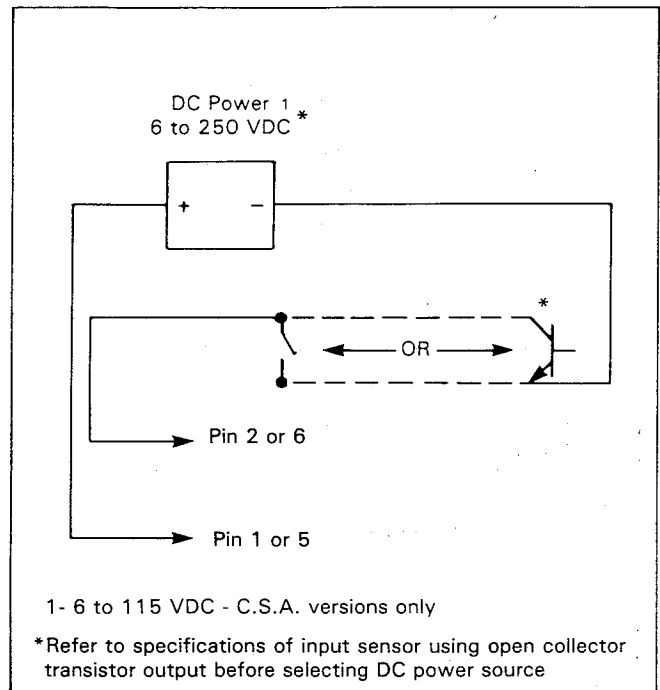
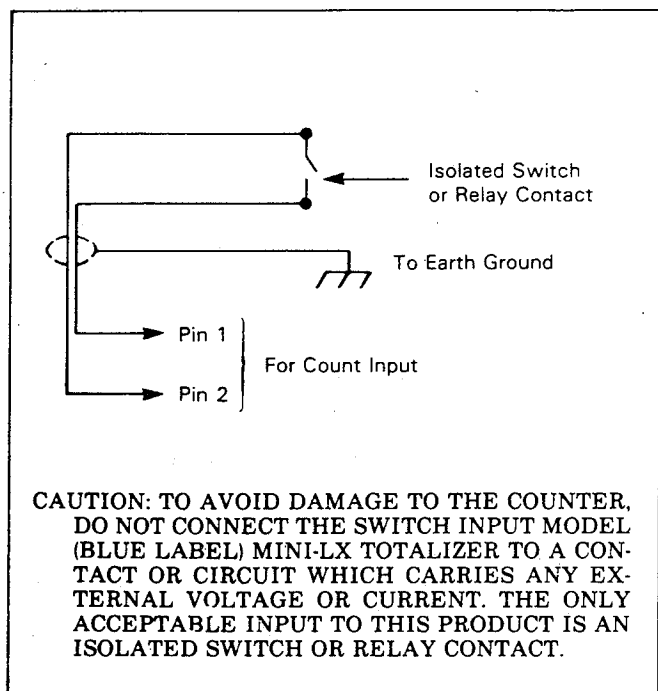
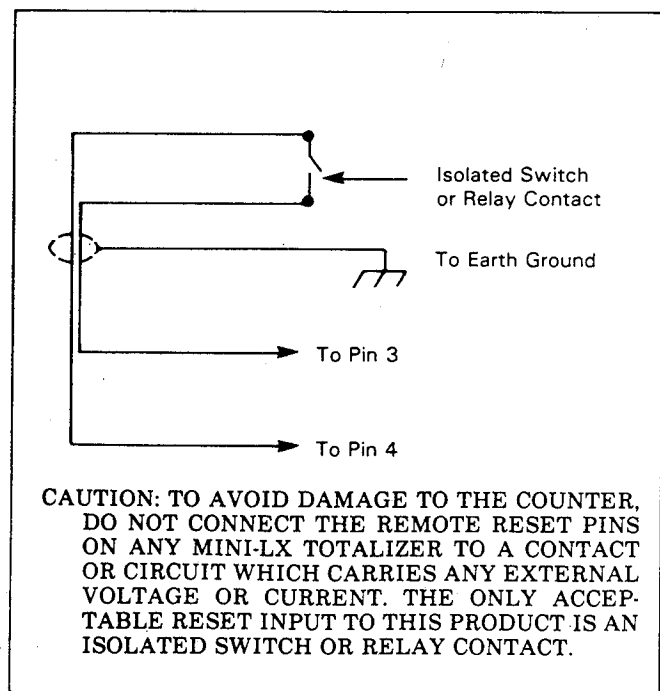

Figure 2. Connecting AC/DC Models (black label) when Count Source is DC. A Switch Contact or Open Collector NPN Transistor Sensor may be used.
Figure 7. Connecting Switch Input (blue label) to Isolated Switch or Relay Contact only.
Figure 8. Connecting Remote Reset (All Models) to Isolated Switch or Relay Contact only.
6. If remote reset pins are to be installed in plug-in mount models, support the rear circuit board with fingers and use a slight rocking motion while pressing the long pins supplied with the counter into positions 3 and 4. Wire per Figure 8.
F. WIRING AC/DC INPUT MODELS (black label). AC/DC input models will accept count impulses of from 6 to 250 volts (C.S.A. versions 6 to 115 volts) AC or DC. See Standard Specifications for minimum on and off times. See Figures 2 and 3 for input wiring. Reset wiring should be extended no further than ten feet from the counter. If reset signal is generated at greater distances, use an isolated relay contact within ten feet of counter to generate reset. During a reset cycle, the counter will not accept input counts. Connect per Figure 8.
Most Veeder-Root sensors, as well as those of other manufacturers, will interface with AC/DC input models. See Figures 2 through 7 for connecting diagrams of most commonly used types.
G. WIRING SWITCH INPUT MODELS (blue label). See Figure 7 for count input wiring. Reset wiring should be extended no further than ten feet from the counter. If reset signal is generated at greater distances, use an isolated relay contact within ten feet of counter to generate reset. During a reset cycle, the counter will not accept input counts. Connect per Figure 8.
B. RESET. To reset the counter, press the reset button located on the left-hand side of the counter. For counters wired for remote reset, activate the remote isolated contacts to reset the counter. Counters without the reset button may be reset remotely (Figure 8).